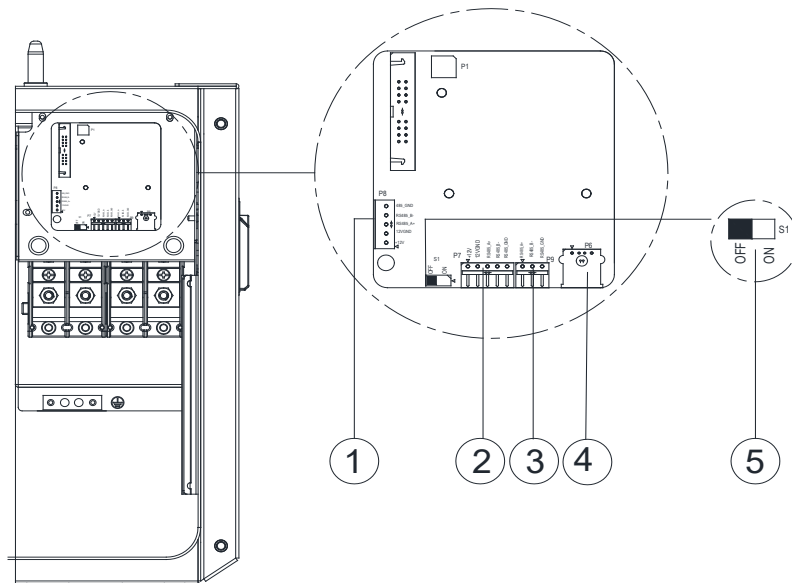
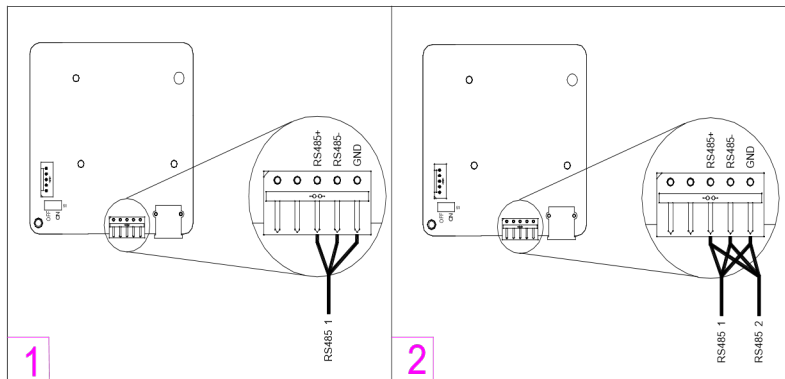

Figure 3-39 Communication Board in the Wiring Box and its connections
Figure 3-40 Connection of Single (1) and Multiple Inverters (2)
- ✓ (3) 18-22AWG communications cables
It is recommended that industrial-grade shielded RS-485 cable be used in lieu of unshielded twisted pair. RS-485 communication cables are connected via the 5-pin connector to the port labeled (2) in Figure 3-39. When creating a network of multiple inverters, the cables are terminated to the same 5-pin connector and 3-pin connector. Figure 3-40 shows a single inverter communication connection in (1) and a network configuration in (2).